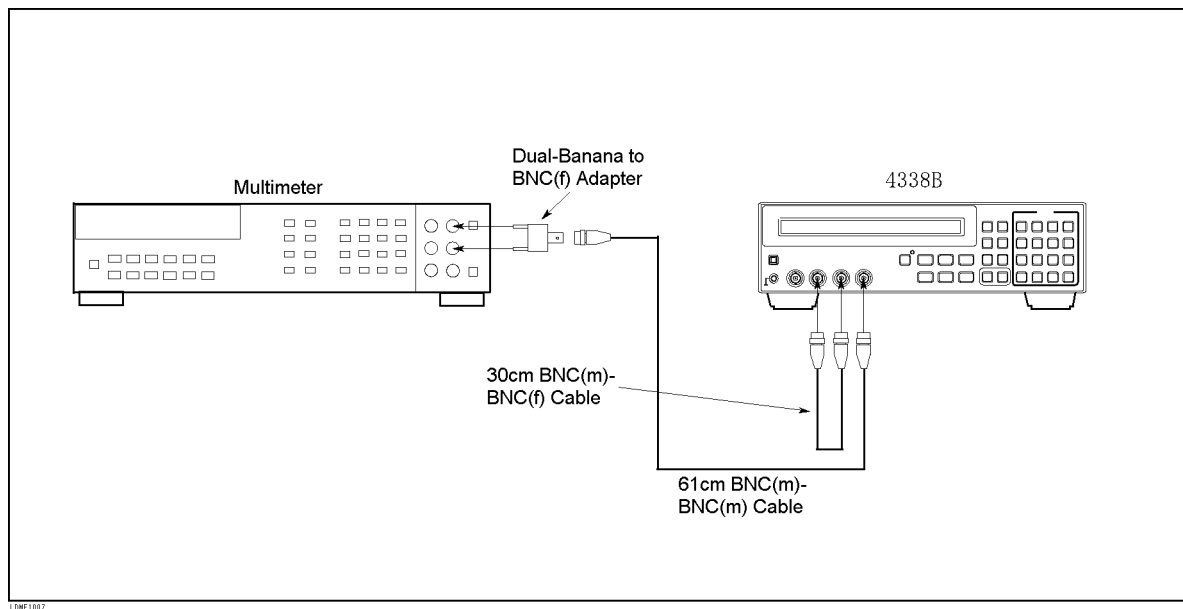

Figure 9-3. Test Signal Level Functional Test Setup
- Set up the equipment as shown in Figure 9-3.